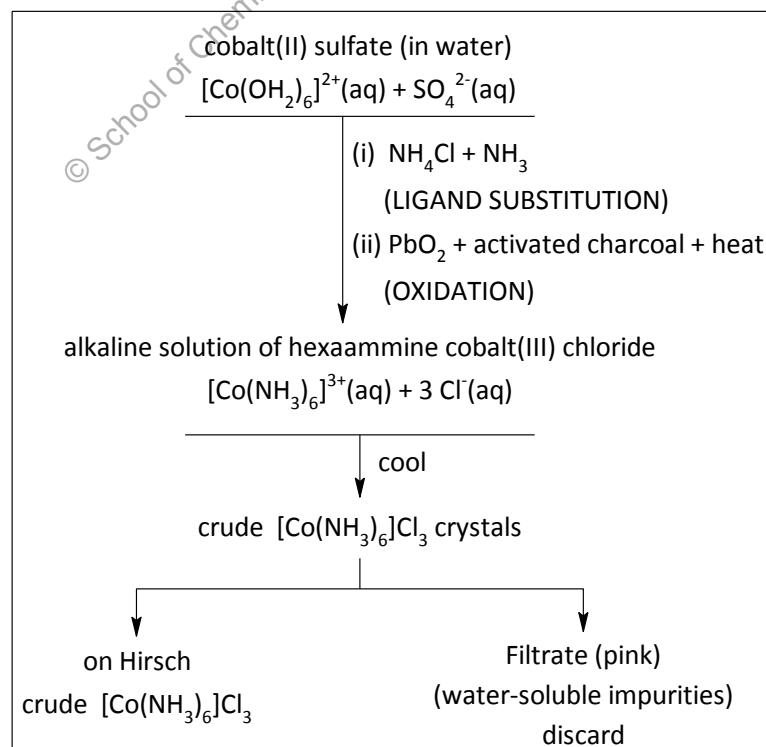

Figure 12.2 Preparation of crude  $[\text{Co}(\text{NH}_3)_6]\text{Cl}_3$ .
- i. Into a 50 mL conical flask dispense, from the appropriate zippette, 1.5 mL of the cobalt(II) sulfate,  $\text{CoSO}_4 \cdot 7\text{H}_2\text{O}$ , solution (750 mg, 2.66 mmol); 3.0 mL of the ammonium chloride ( $\text{NH}_4\text{Cl}$ ) solution (740 mg, 13.8 mmol) and 2 mL of the concentrated ammonia solution. Note the colour changes. To minimize the loss of ammonia, cover the flask with a watch glass. Using the scoops provided add lead(IV) oxide,  $\text{PbO}_2$ , (1 level scoop) and activated charcoal (1 level scoop).
**NOTE:** The following instructions must be followed carefully; see Fig. 12.2 for an outline of the procedures used in the preparation of the crude product.
- iv. The solid product is a mixture of the hexaammine cobalt(III) chloride, charcoal, lead(II) sulfate and excess lead(IV) oxide.